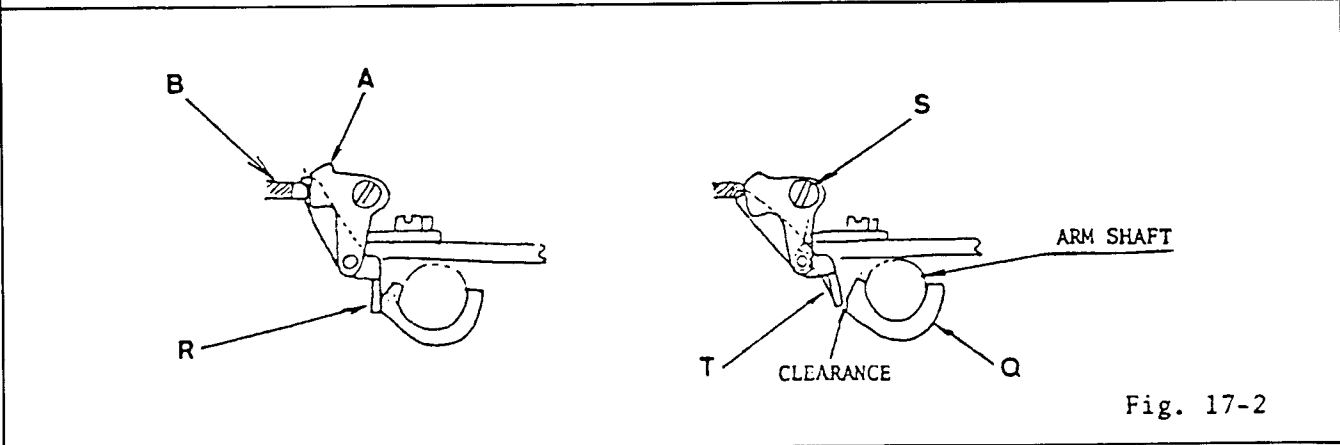

Fig. 17-2
When kick-out lever locking cam (B) is turned clockwise activated by various linkages, the kick-out lever plate (A) is, by means of a spring, pushed into engagement with the notch in the locking cam (B) locking the cam in its kick-out position. When the machine is operated, the lobe on kick-out lever releasing cam (Q) on the arm shaft contacts kick-out lever (R) which kicks kick-out lever plate (A) out of engagement with kick-out lever locking cam (B). The kick-out lever locking cam (B) returns to its normal position. (Fig. 17-2).